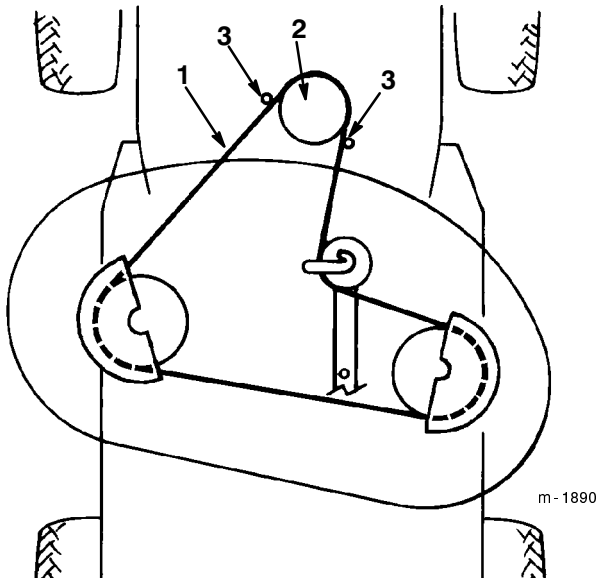

Figure 40
13. Remove the mower belt from the lower engine pulley (Fig. 40). If you are careful, you can flex the belt guide(s) just far enough away from the pulley to remove the belt. If it is too difficult to remove the belt, loosen the bolts and nuts securing the belt guides.
3. Install the mower belt onto the lower engine pulley (Fig. 40). If you are careful, you can flex the belt guide(s) just far enough away from the pulley to install the belt. If it is too difficult to install the belt, loosen the bolts and nuts securing the belt guides.